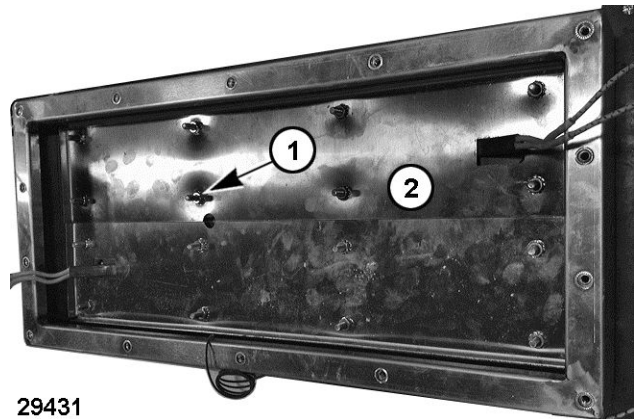

Fig. 34
8. Remove 16 mounting nuts (1, Fig. 34) securing heating element retainer (2, Fig. 34) to platen.